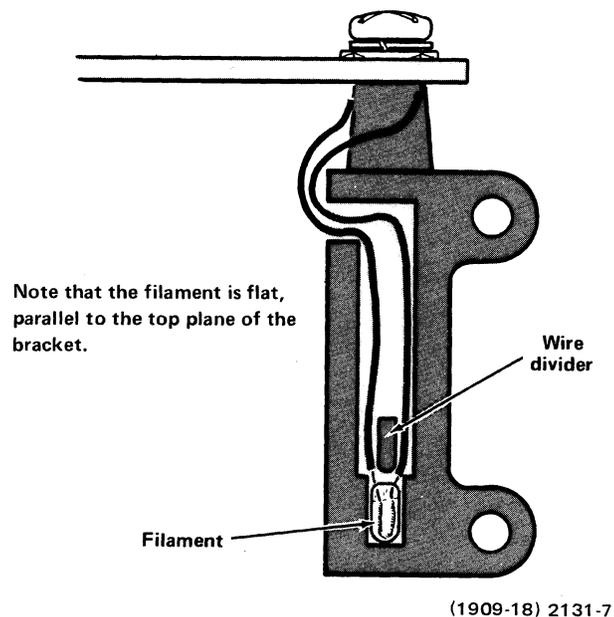

Fig. 3-8. Sensor Lamp Positioning.
1. To replace the lamp in the Status bracket, it is not necessary to remove the assembly from the 4924. Remove the metal cover from the top of the bracket by removing the two attaching screws, then unsolder the two lamp connections from the Status board (Fig. 3-8).
2. Place new insulation tubing on the leads of a new lamp, then place the new lamp into the bracket, positioning one of the leads on each side of the bracket's internal divider. With one lamp lead on each side of the divider, the filament should be roughly parallel to the top plane of the bracket. The position of the filament is critical in its ability to be sensed by the phototransistors. Position the leads out through the back of the bracket, and solder them in position on the Status board. (Refer to Fig. 3-8).